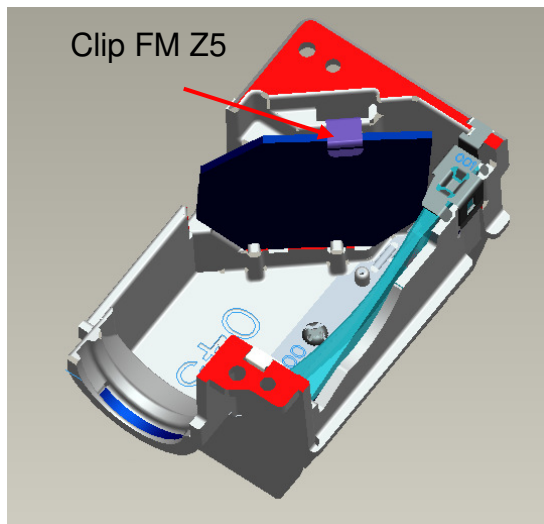

Fig. 2-5
- (2) Assemble “Clip FM Z5” to fix FM(Fig. 2-5).